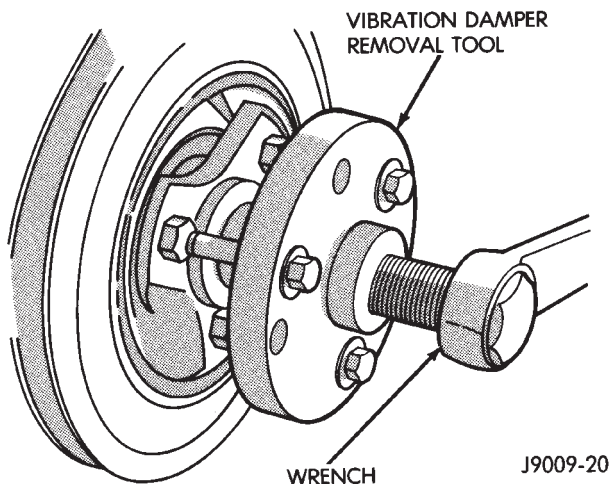

Fig. 38 Vibration Damper Removal Tool 7697
- (1) Disconnect negative cable from battery.
- (2) Remove the serpentine drive belt and fan shroud.
- (3) Remove the vibration damper retaining bolt and washer.
- (4) Use Vibration Damper Removal Tool 7697 to remove the damper from the crankshaft (Fig. 38).